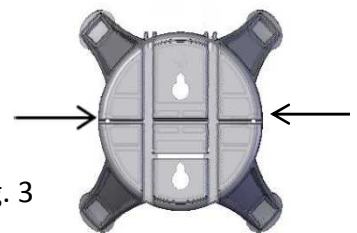
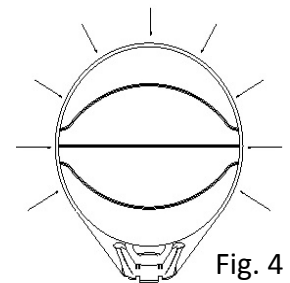

Fig. 3
Fig. 4
Step 7: Locate "B-Band" cable (black) and place the cable in the horizontal slot of the INVISI-ball Wall Mount bracket (Fig. 3) – Guide the "B-Band" around the basketball at the desired location and INVISI-ball Wall Mount bracket as shown (Fig. 4), finding a seam in the basketball to mask the mounting band.